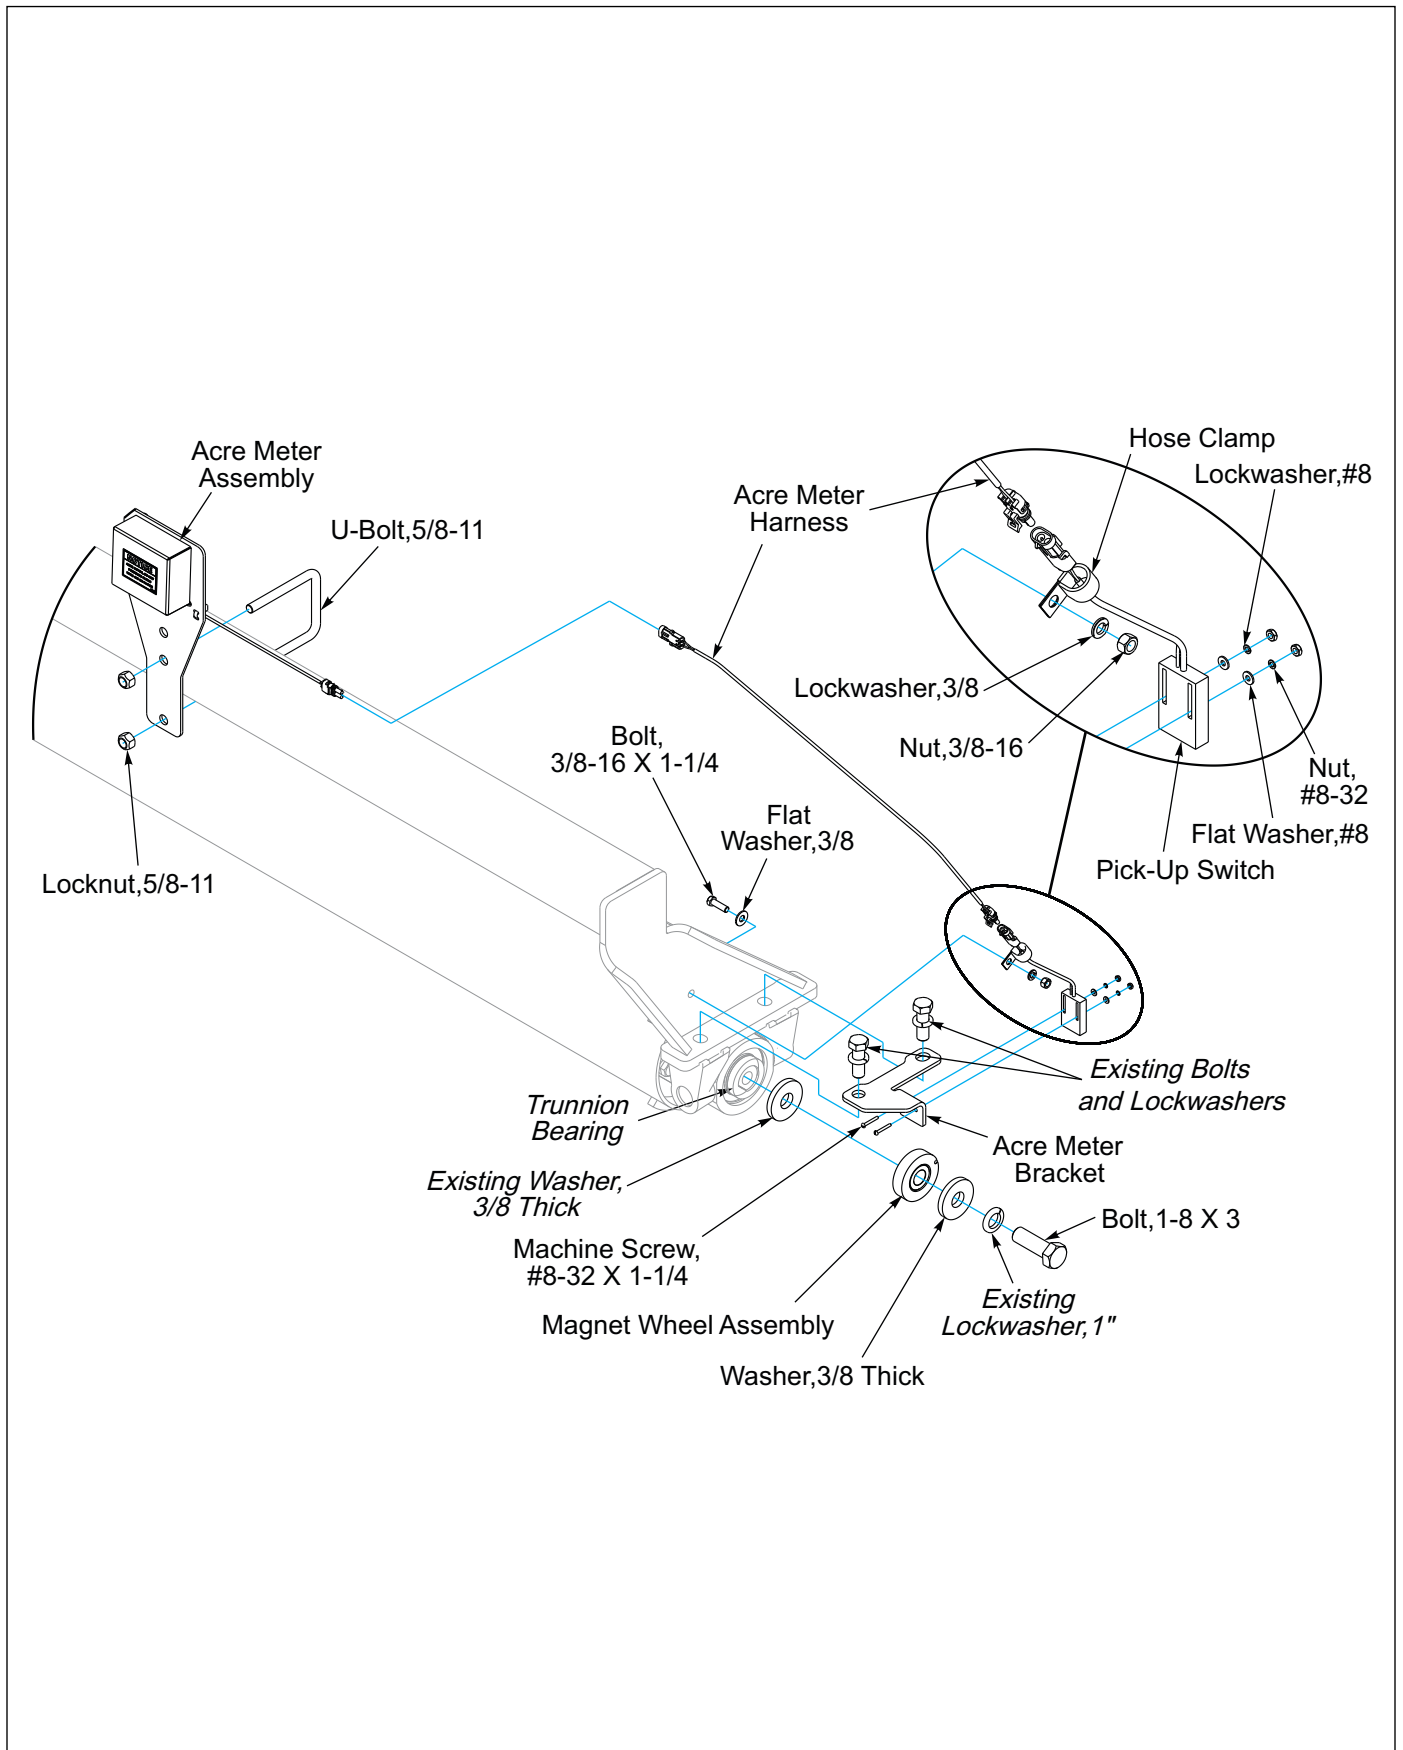

Figure 2-25: Acre Meter Installation
1. Attach the Acre Meter Assembly to the front frame tube using 5/8-11 U-Bolt and Locknuts. **See Figure 2-25.**